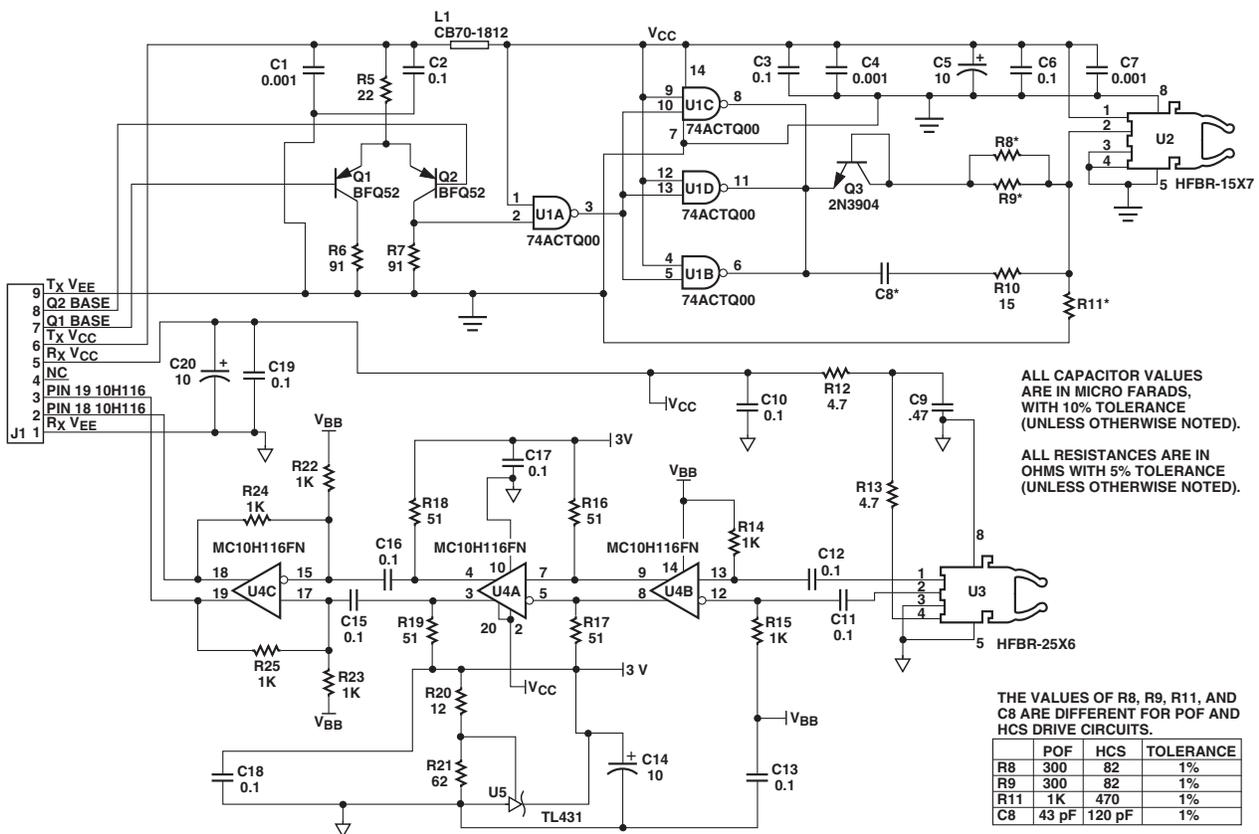

Figure 1. Transmitter and Receiver Application Circuit with +5 V ECL Inputs and Outputs.
Data link operating conditions and performance are specified for the HFBR-15X7 transmitter and HFBR-25X6 receiver in the recommended applications circuits shown in Figure 1. This circuit has been optimized for 125 MBd
Recommended Operating Conditions for the Circuits in Figures 1 and 2.
1. If the output of U4C in Figure 1, page 4 is transmitted via coaxial cable, terminate with a 50 Ω resistor to $V_{CC}-2V$.
Plastic Optical Fiber (1 mm POF) Transmitter Application Circuit: Performance of the HFBR-15X7 transmitter in the recommended application circuit (Figure 1) for POF; 1-125 MBd, 25° C.
Hard Clad Silica Fiber (200 μm HCS) Transmitter Application Circuit: Performance of the HFBR-15X7 transmitter in the recommended application circuit (Figure 1) for HCS; 1-125 MBd, 25° C.
Plastic and Hard Clad Silica Optical Fiber Receiver Application Circuit: Performance^[4] of the HFBR-25X6 receiver in the recommended application circuit (Figure 1); 1-125 MBd, 25° C unless otherwise stated.
Electrical/Optical Characteristics 0 to 70° C; 5.25 V ≥ V_{CC} ≥ 4.75 V; power supply must be filtered (see Figure 1, Note 2).
- The signal output is an emitter follower, which does not reject noise in the power supply. The power supply must be filtered as in Figure 1.